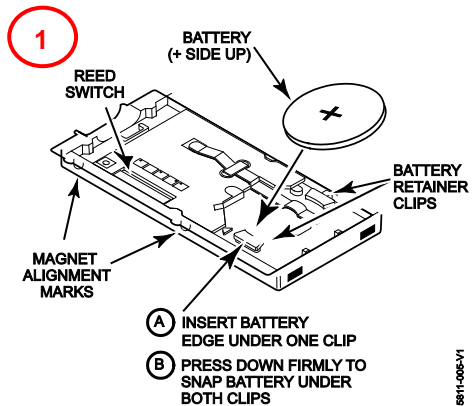

Figure 1: Battery Installation
1. **Install the Battery** by inserting one edge of the battery under one of the two plastic battery retainer clips, then pressing down firmly to snap it beneath both clips; see **figure 1**.